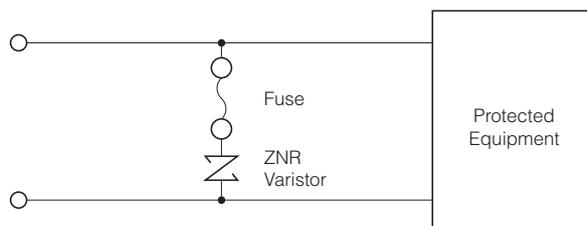

Fig. 2 Alternative Fuse Location/placement for Varistor Protection
2.3.1 When a line current of equipment is higher than the recommended current rating of the fuse in Table 2, the location of the fuse shall be arranged according to Fig 2.